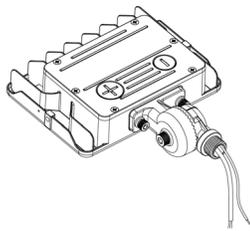

Fig. 1.3
3. Connect both parts of the knuckle mount using the bolt provided (Fig. 1.3).